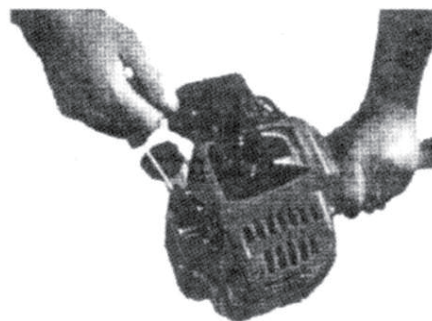

Figure 1
1. Place the unit firmly on the ground, making sure it is stable and that the cutting attachment is free and clear of any bystanders or objects, Hold onto the hand grip on the outer tube with your left hand grasp the starter rope handle with your right hand. See Figure 1